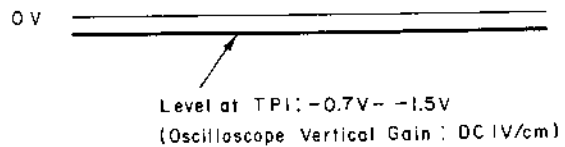

Fig. 4.6
Refer to Figs. 4.6 – 4.8.
- (c) Check to insure that the minus level (-0.7 to -1.5 V) is observed on the Synchroscope as shown in Fig. 4.6.